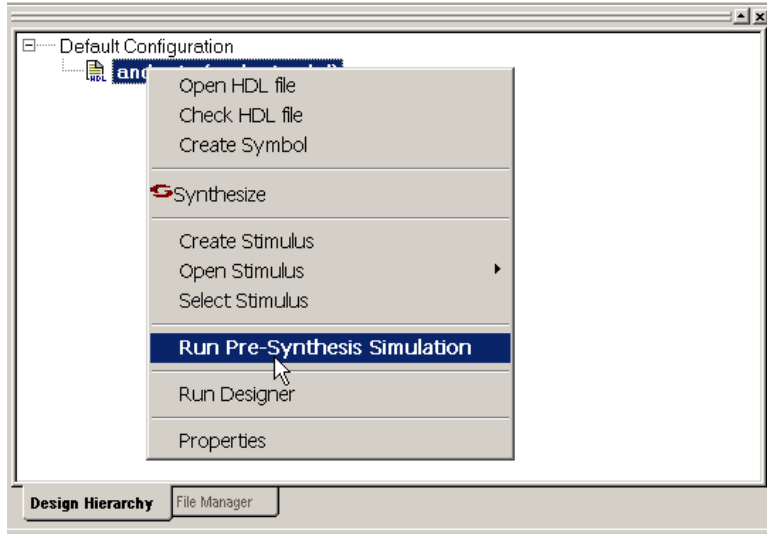

Figure 5-12. Run Pre-Synthesis Simulation
4. **Double-click the ModelSim simulation icon in the Libero IDE Process window, or right-click *andgate* in the Libero IDE Design Hierarchy tab and select *Run Pre-synthesis Simulation*, as shown in Figure 5-12.**